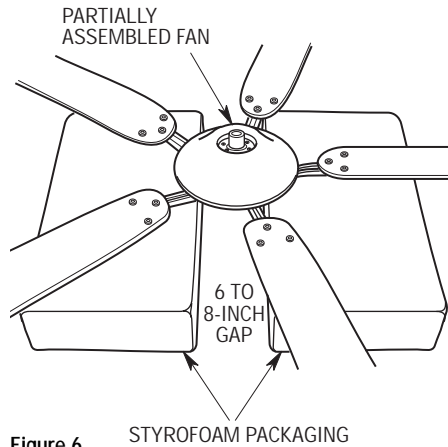

Figure 6
- 10. Position the top and bottom halves of the styrofoam packaging side-by-side on the floor with a six to eight inch gap between the halves (Figure 6). Carefully place the partially assembled ceiling fan on the styrofoam halves, with the light fitter assembly positioned in the gap and the fan assembly resting on the fan blade assemblies.